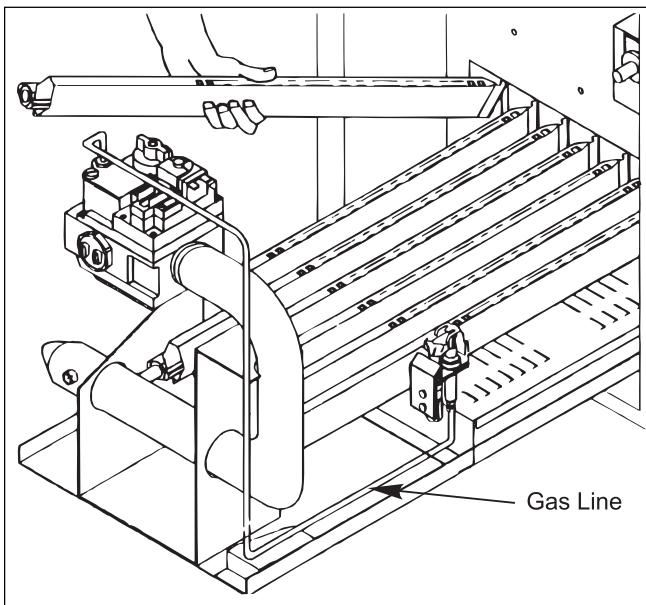

Figure 31. Burner removal.
11. Hold the gas burner or pilot burner firmly, and push it away from the manifold until it is clear of the orifice. Slide the burner to be replaced out of the burner tray (see Figure 31).